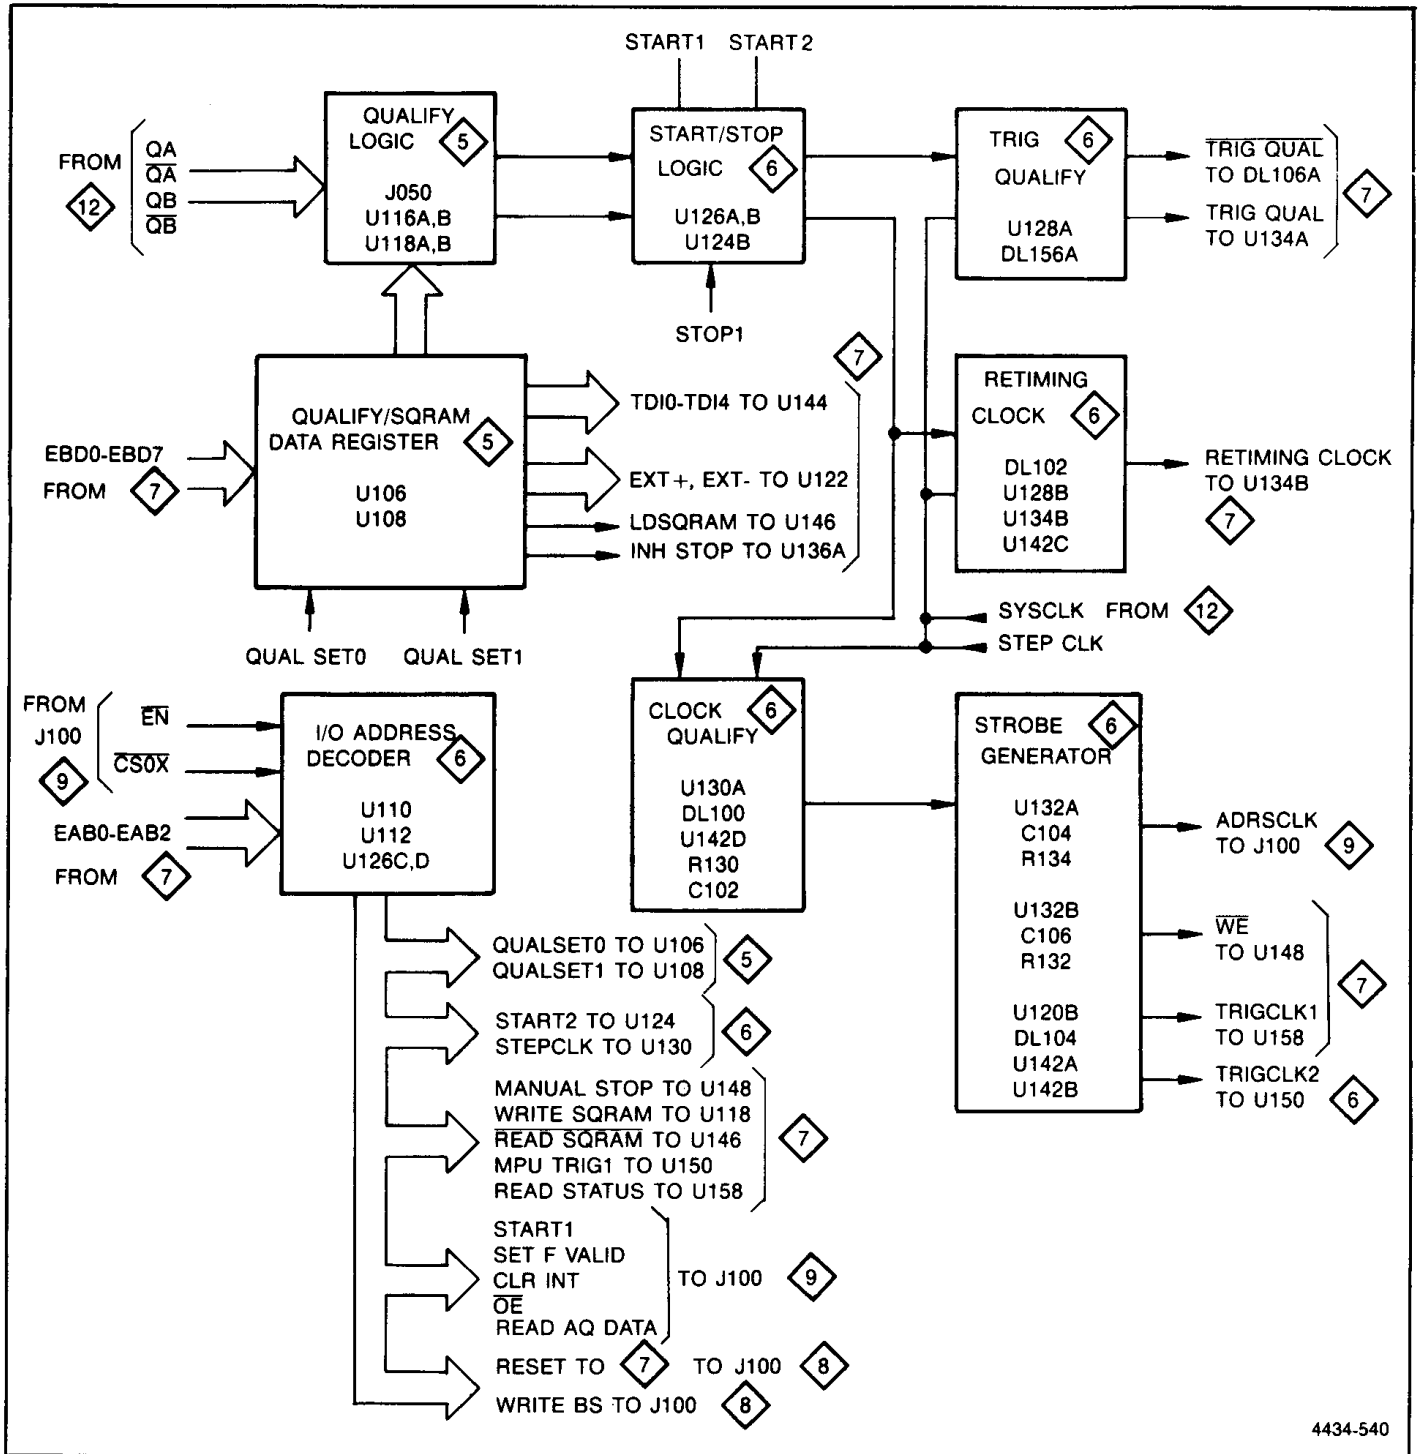
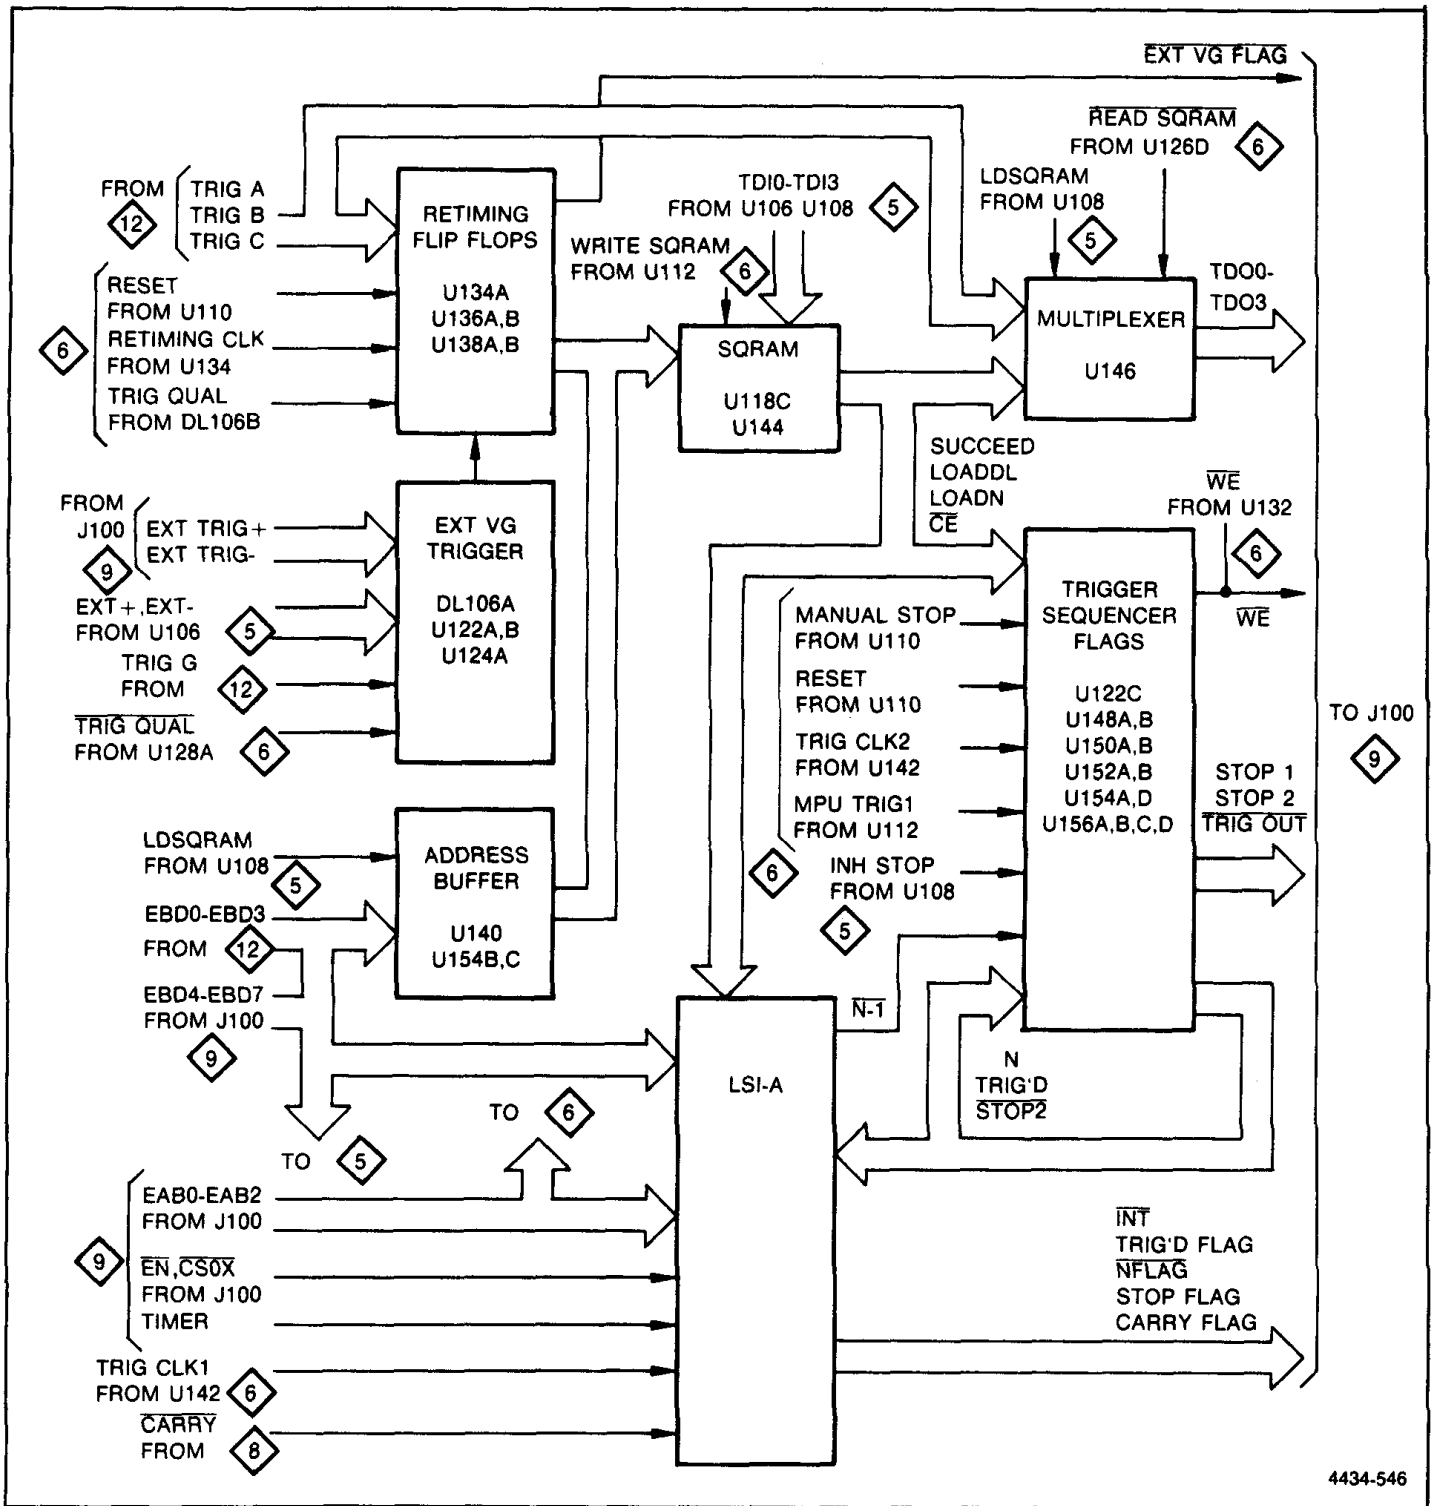

Figure 4-2. 318 Simplified diagram of the ACQ control circuitry on schematics <5> and <6>.
Figure 4-3. 318 Simplified diagram of the ACQ control circuitry on schematic <7>.
The A03 Acquisition Control board (parallel data) has two registers and memory that acquisition parameters are loaded into before data acquisition. It also contains other circuitry that controls the trigger sequence and the acquisition memory. Simplified block diagrams are shown in Figures 4-2 and 4-3.
Figure 4-2 shows a simplified version of all the circuitry on schematics <5> and <6>. Figure 4-3 shows a simplified version of schematic <7>.
***Refer to Figure 4-3 for a simplified block diagram of the ACQ control circuitry on schematic <7>.***